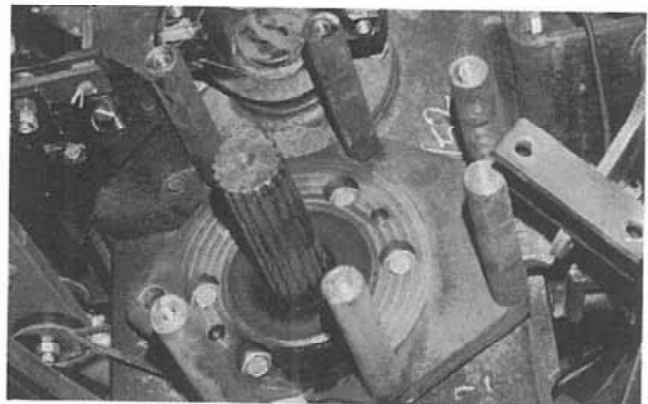

Figure 5:
7. Unfasten the brake lever bracket from the outside brake plate, proceed by removing the outside brake plate, brake discs and shields (Fig. 5). The